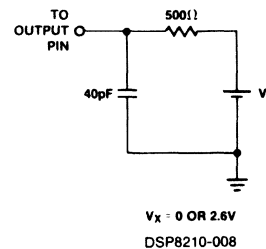

Figure 2. Output Three State Delay Load
1. Transition is measured  $\pm 500mV$  from steady state voltage with loading specified in Fig. 2.